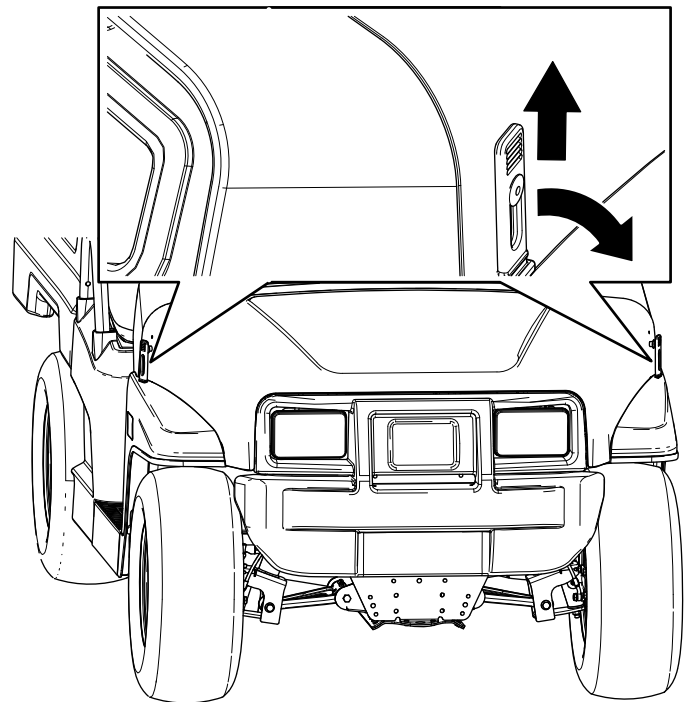

Figure 29
1. Lift up the handle of the rubber latches on each side of the hood (Figure 29).
2. Secure the hood by aligning the rubber latches onto the latch anchors on each side of the hood (Figure 29).